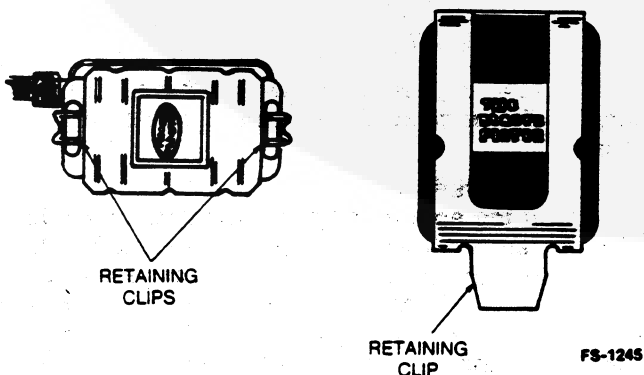

FIGURE 2. FUEL FILTERS
4. Remove filter retaining clip or clips from fuel filter (see Figure 2).